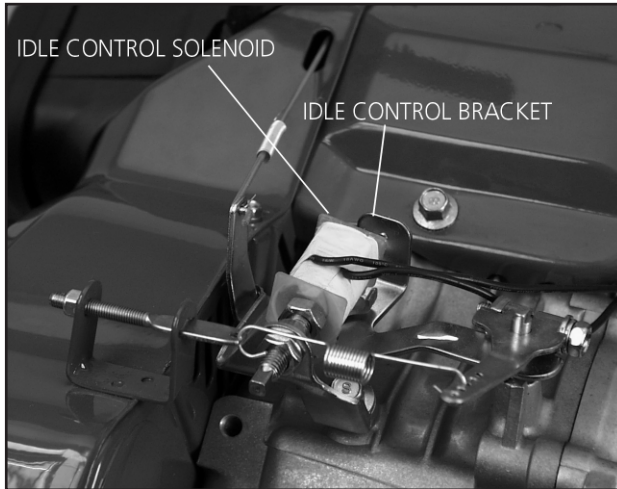

Figure 3.4 — External Governor Parts (Units with Idle Control)
Models equipped with automatic idle control (Section 4) have the same external governor parts as shown in Figure 3.3 with the addition of an idle control solenoid as shown in Figure 3.4.
1. Remove the CAPSCREW from the IDLE CONTROL BRACKET if equipped with automatic idle control (Figure 3.4).
5. Reinstall the CAPSCREW into the IDLE CONTROL BRACKET if equipped with automatic idle control (Figure 3.4). See BLOWER HOUSING SCREW under "TORQUE SPECIFICATIONS," page 61, for proper tightness.